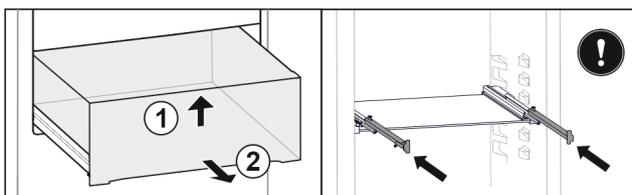

Fig. 27*
- ▶ Lift up the drawer at the front Fig. 27 (1).*
- ▶ Take off to the front Fig. 27 (2).*